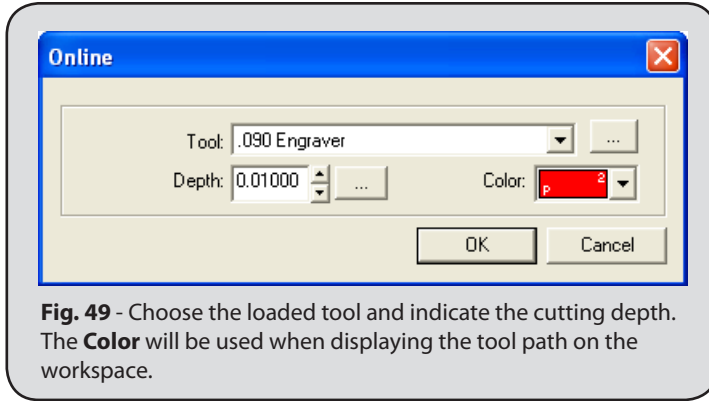

Fig. 49 - Choose the loaded tool and indicate the cutting depth. The **Color** will be used when displaying the tool path on the workspace.
4. The **Online** dialog will open. For this example, a 0.005 1/4" Engraver was used, and the **Depth** was set to 0.01" (Fig. 49).